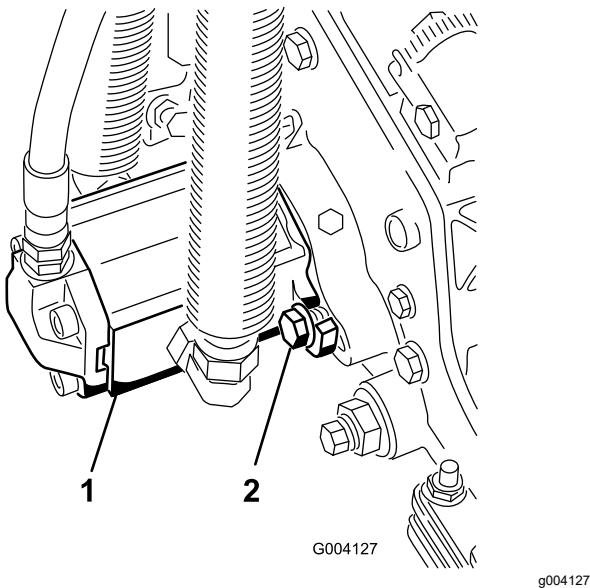

Figure 20
16. Install the motor by rotating it clockwise so that the motor flanges clear the bolts (Figure 20). Rotate the motor counterclockwise until the flanges encircle the bolts then tighten the bolts.